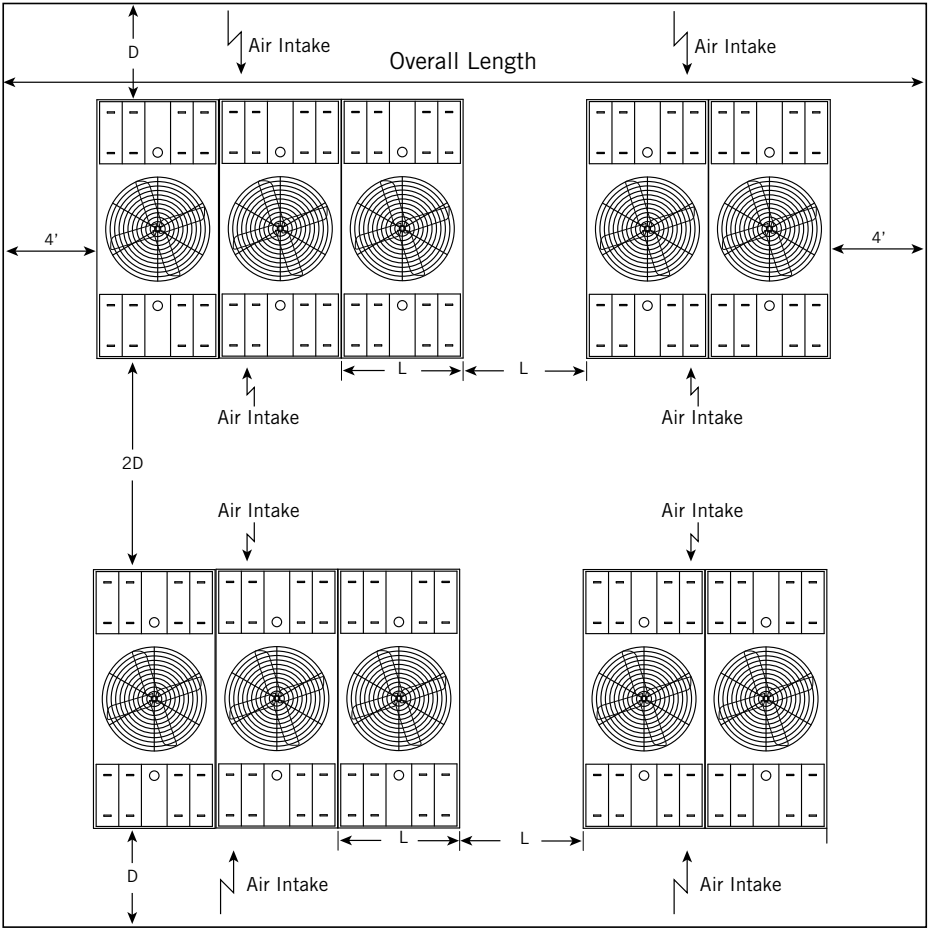

Figure 16. Plan View of Multi-cell Installation
**Example: (10) S3E-1222-14S (See Figure 16)**